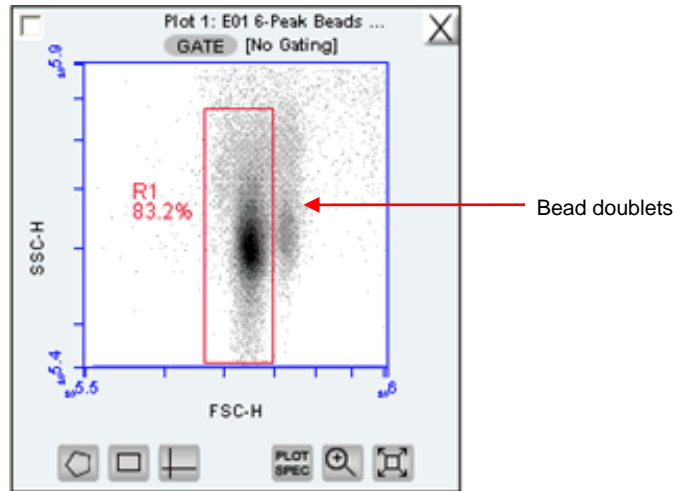

Figure 3-10. Plot with Bead Doublets
- On the first FSC-H vs. SSC-H plot (scatter plot) in the bead file, adjust the pre-drawn region (R1) to encompass the main population by dragging the border of the region (see Figure 3-10). R1 should contain at least 80% of total events.